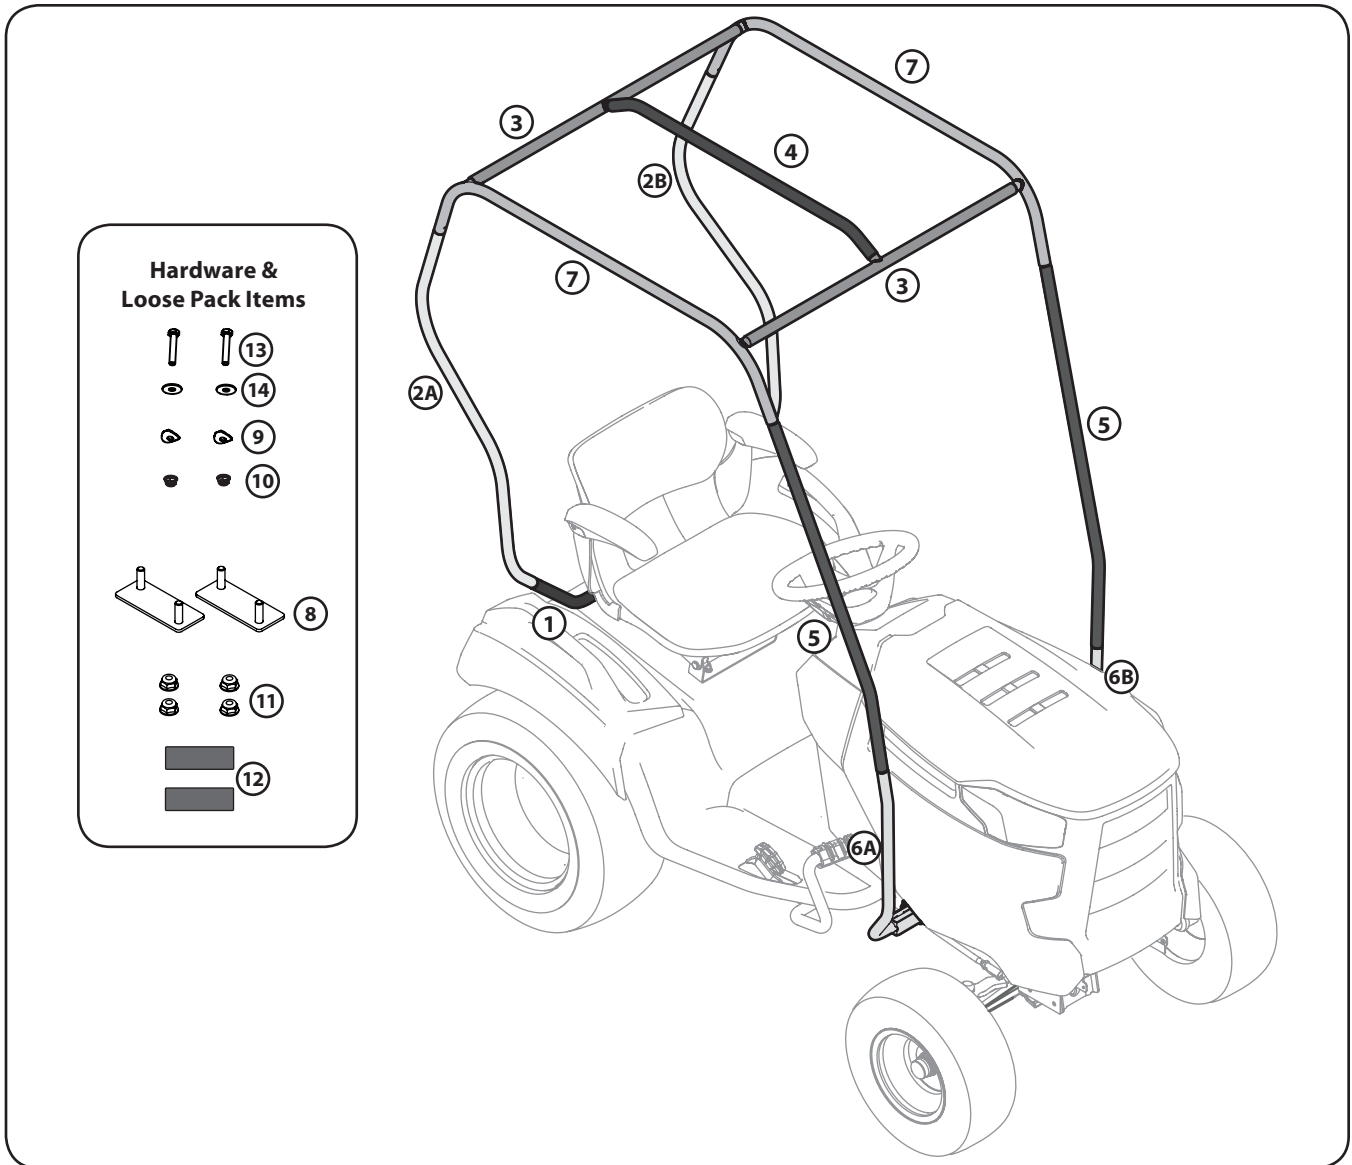

Figure 3-1
- Assemble the frame of the Snow Cab/Sun Shade by connecting the numbered parts as shown in Figure 3-1.
NOTE: Refer to Figure 3-1 for proper location and assembly of the frame pieces.